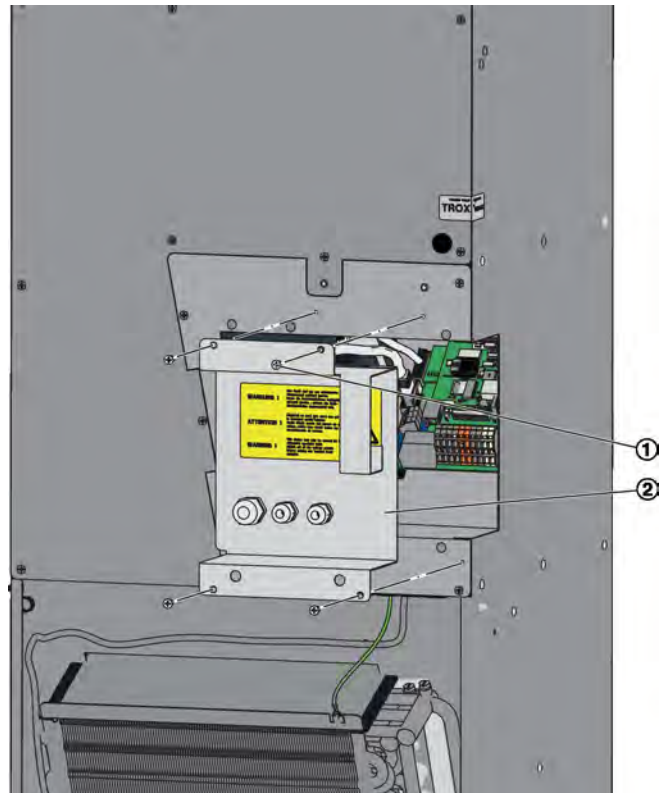

Fig. 10: Electrical connections
1. ▶ Take off the controls access panel (Fig. 10 /2); to do so, loosen the Phillips screws (Fig. 10 /1), then remove the panel.